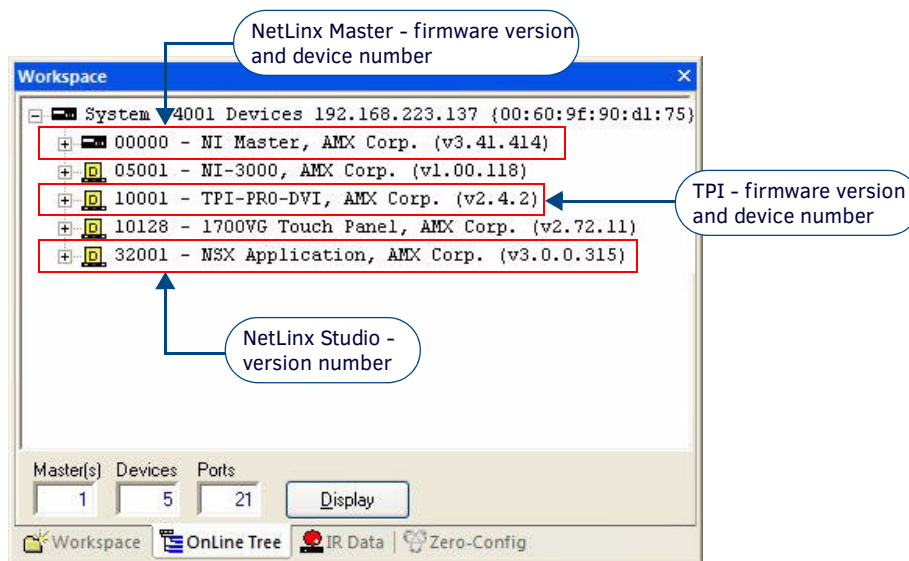

FIG. 81 NetLinX Workspace window (showing connected TPI)
1. Use the **OnLine Tree** in NetLinX Studio to view the devices on the System. Verify the TPI appears in the OnLine Tree tab of the Workspace window (FIG. 81).